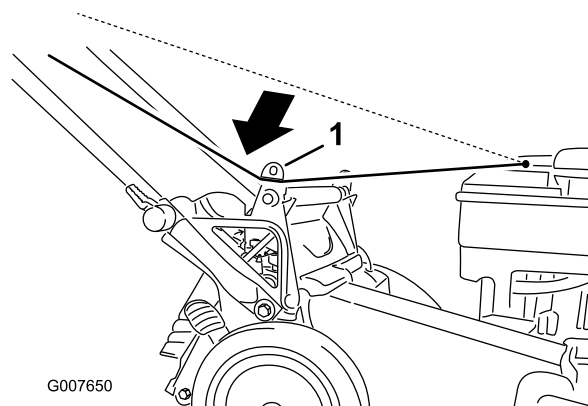

Figure 23
1. Route the starter rope around the lower-rope guide (Figure 23).
4. Install the rear-discharge plug (Figure 23).